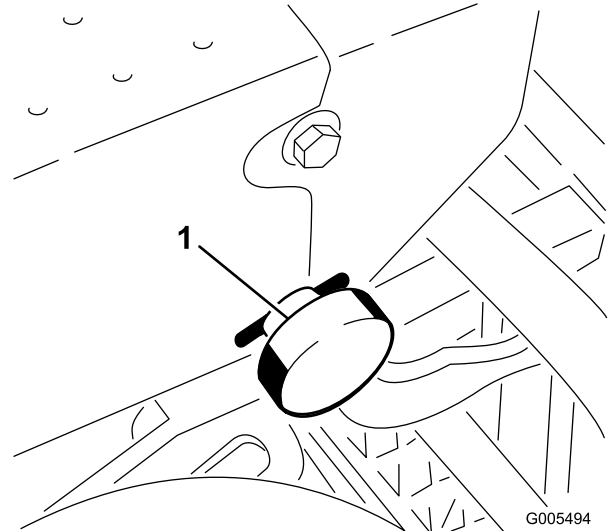

Figure 6
3. Remove the cotter pin securing steering arm locking knob (Figure 6) and remove the knob.